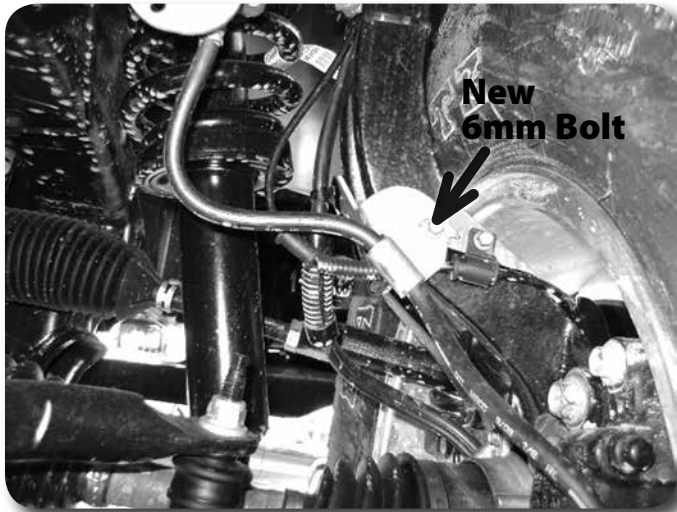

Figure 28
58. Attach the ABS line to the connector at the inner fender and the vacuum line to the hub. Route the lines similar to the factory setup down to the side of the knuckle. Attach the ABS wire with the factory 6mm bolt to the side of the knuckle. Attach the brakeline with a new 6mm x 18mm bolt with 1/4" washer to the side of the knuckle, the brakeline locating tab will go into the unthreaded hole. Figures 28